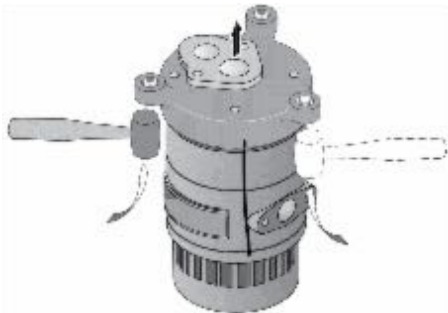

Figure 29
6. Turn the pump upside down on the bench and block it. Remove the four cap screws from the base. With a mallet, tap upward on the base to loosen it. Lift the base off of the intermediate volute (See Figure 29).